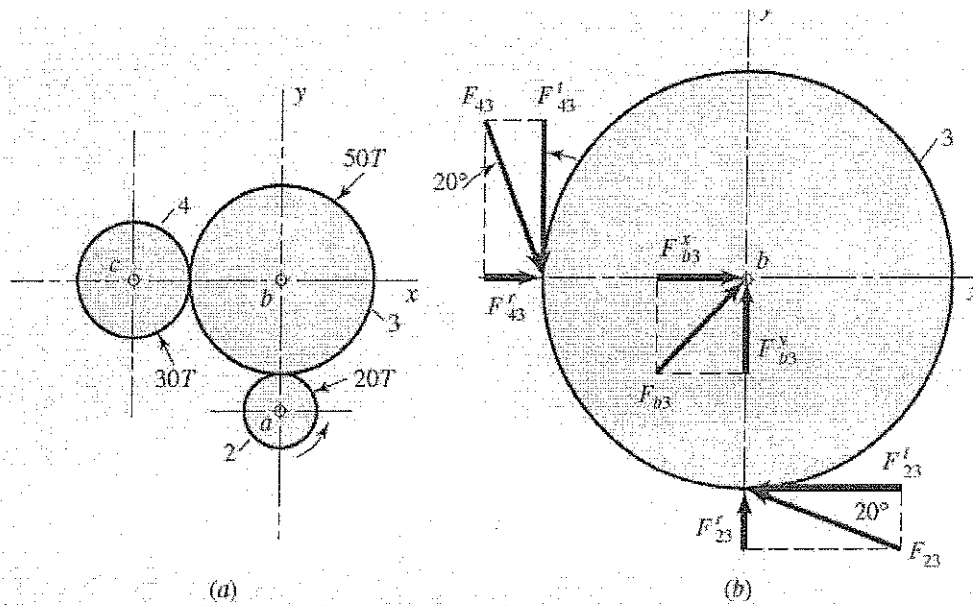

Fig.Q7
8. Pinion 2 in Fig. Q7(a) runs at 1750 rpm and transmits 2.5 kW to idler gear 3. The teeth are cut on  $20^\circ$  full-depth system and have a module of  $m = 2.5$  mm. For the free body diagram of gear 3 shown in fig. Q7(b), find all the forces that act upon it. [5 M]